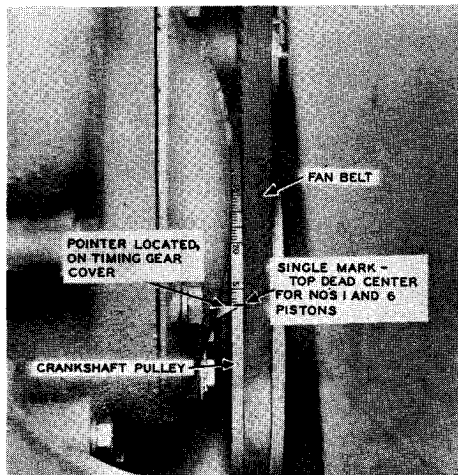

Figure 107
A. Release the engine compression and crank the engine slowly, until the crankshaft pulley is in the position shown in Figure 107. The closely spaced marks will be above the pointer and the adjacent top dead center single mark will be aligned with the pointer.